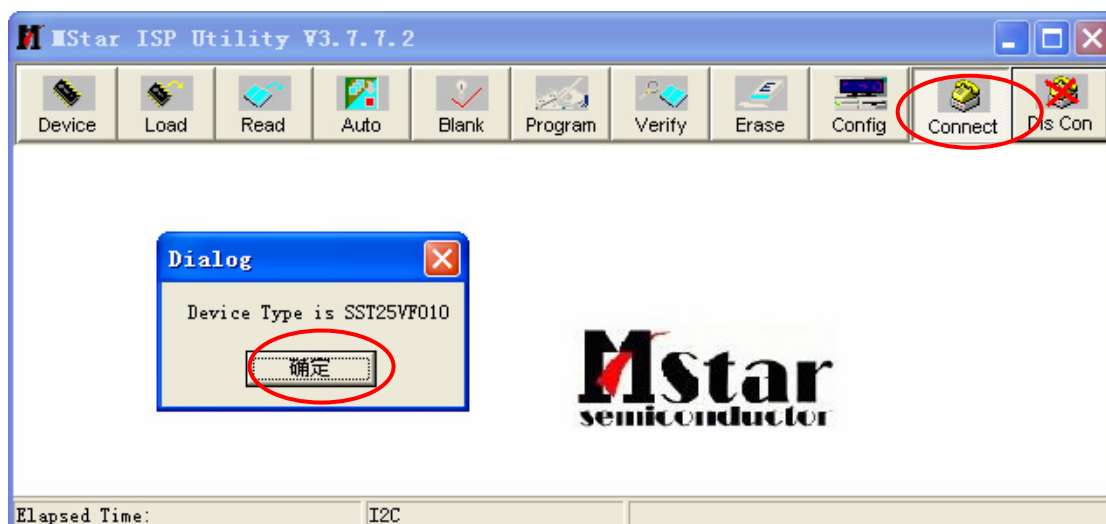

Fig.2
Step 1: Double click the ISP_Tool v3.772.exe icon and click Connect, bring up Fig.2